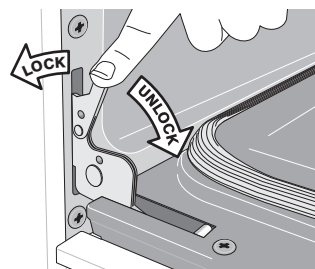

Figure 8: Door hinge locks
2. Pull the door hinge locks on both left and right door hinges down from the oven frame completely towards the oven door (See Figure 8). A tool such as a small flat-blade screwdriver may be required.
4. Push the door hinge locks up towards and into the oven frame on both left and right oven door hinges to the locked position (See Figure 8).